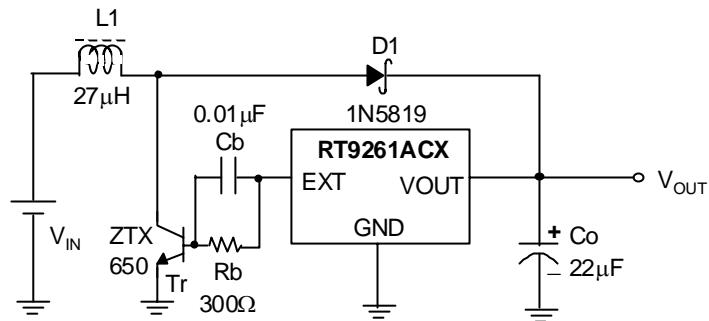

Fig. 2
(1) VIN = 1.8V, VSS = 0V, IOUT = 10mA, TOPT = 25°C, and External Circuit of Typical Application(2) VIN = 3V, VSS = 0V, IOUT = 10mA, TOPT = 25°C, and External Circuit of Typical Application
**Electrical Characteristics** (Refer to Fig. 2)